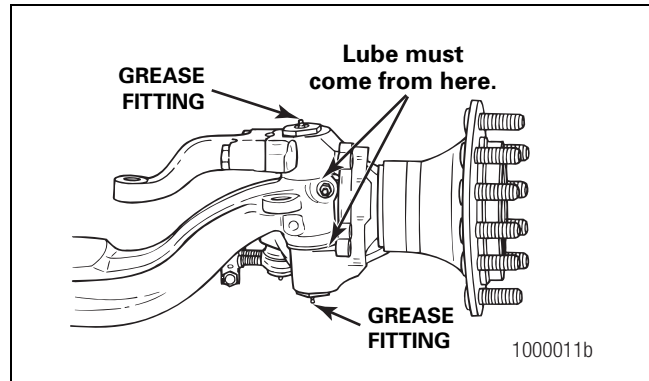

Figure 6.33
4. Lubricate the king pins through the grease fittings on the top and bottom king pin caps. Figure 6.33.
5. Force lubricant into the upper and lower king pin grease fitting caps until new lubricant flows from between the upper axle beam end and the knuckle, and the lower axle beam end and the knuckle. Figure 6.33.